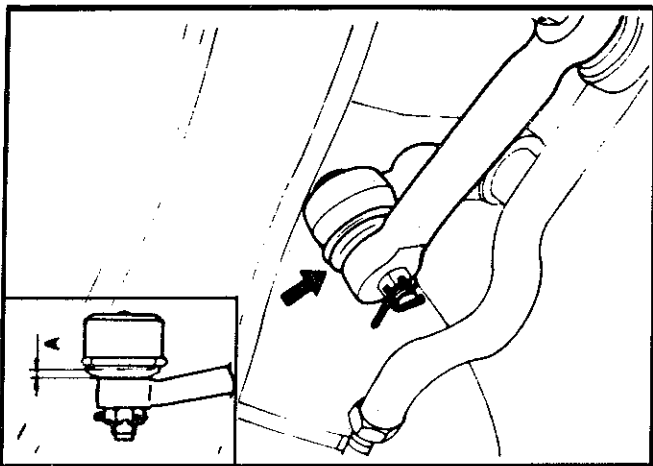

Fig. 7—Checking relay rod-to-pitman arm clearance and relay rod-to-idler arm clearance
- (1) Tighten the relay rod to pitman arm lock nut and the relay rod to idler arm lock nut to the specified torque.
- (2) After the relay rod has been installed to the pitman arm and idler arm, check to ensure that clearance A, shown in Fig. 7, falls within the specified dimension.
- (3) Install and seal the dust boot as previously described (refer Tie Rods).